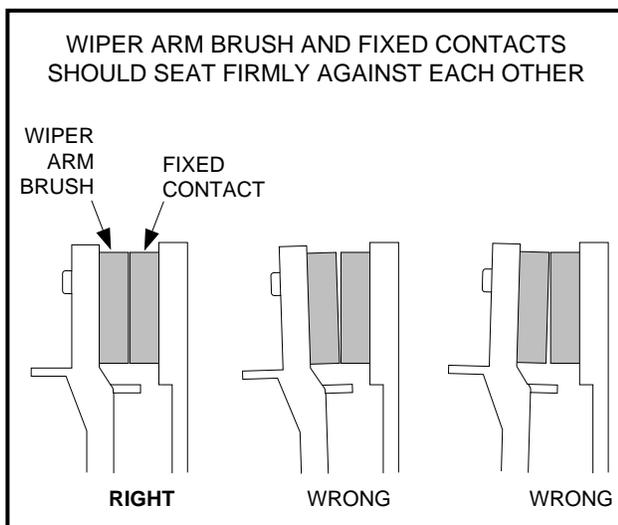

Figure 11-22 Wiper Arm Brush and Fixed Contacts
1. Remove the V-Glide wiper switch cover and observe the wiper arm brush as it moves across the fixed contacts. There should be sufficient spring pressure in the arm to keep the wiper arm brush firmly against each of the fixed contacts as it travels across them. There should also be proper surface contact between the brush and each of the fixed contacts as shown (**Figure 11-22, Page 11-14**).